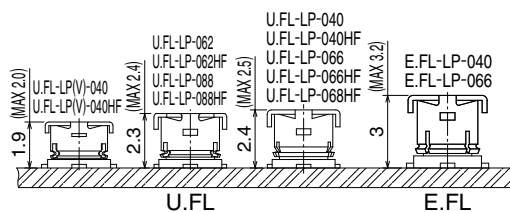

Fig.1
**1. Nominal mated height of 1.9 or 2.3mm, 2.4mm (Max. 2.0 or 2.4mm, 2.5mm)(Fig.1)**